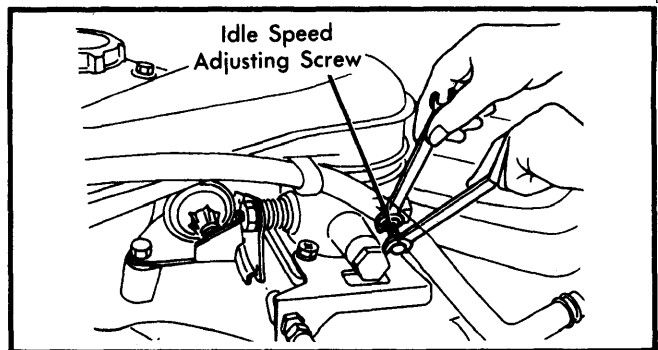

Fig. 2 Idle Speed Adjustment
- 2) Push in throttle control knob under dash panel. Loosen idle adjusting screw lock nut. Start engine and adjust idle by turning idle adjusting screw. See Fig. 2. Tighten idle adjusting screw lock nut.